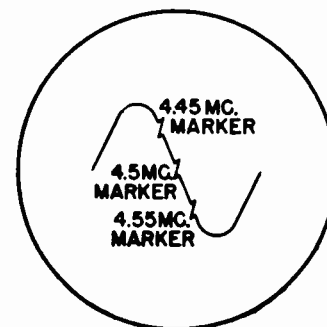

FIGURE 11 - SOUND DISCRIMINATOR RESPONSE
2. Adjust the cores of the discriminator transformers T52 and T53 until the discriminator curve corresponds to that in Figure 11. Note especially that: